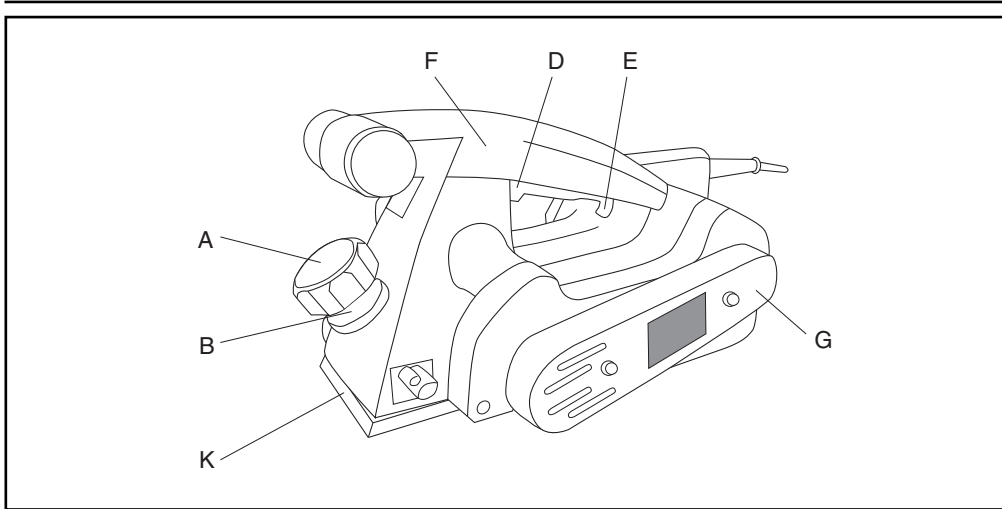

Fig. 1
PARTS LIST (Fig. 1+2)
- To adjust the planing depth, turn the control knob (Fig. 1, A) in a clockwise direction. On the control knob there is a pointer (Fig. 1, A) which shows the planing depth in mm. Turn the control knob until the desired planing depth is shown.
- Now insert the mains plug into the socket. To switch on, first slide the release button (Fig.1, E) backwards, keep it pressed backwards while you press the operating switch (Fig.1, D). The planer is now switched on and you can let go of the release button.